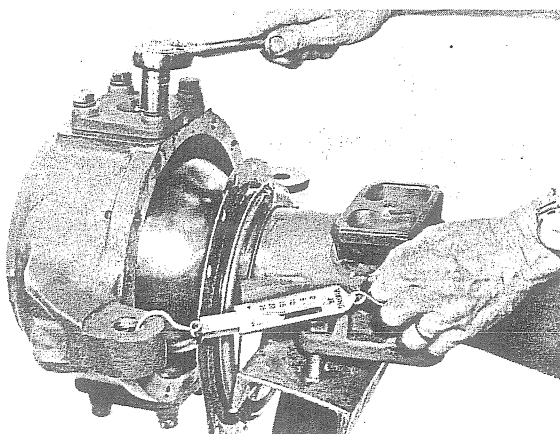

Fig. 91 - Checking Trunnion Bearing Preload
11. Install upper bearing trunnion without shims then attach a spring scale to spindle support, as shown in Fig. 91, and tighten the upper trunnion bolts evenly while checking the amount of force on the spring scale required to pivot spindle support. (This is trunnion bearing preload.) Tighten bolts evenly until spring scale reads between 12-18 lbs.